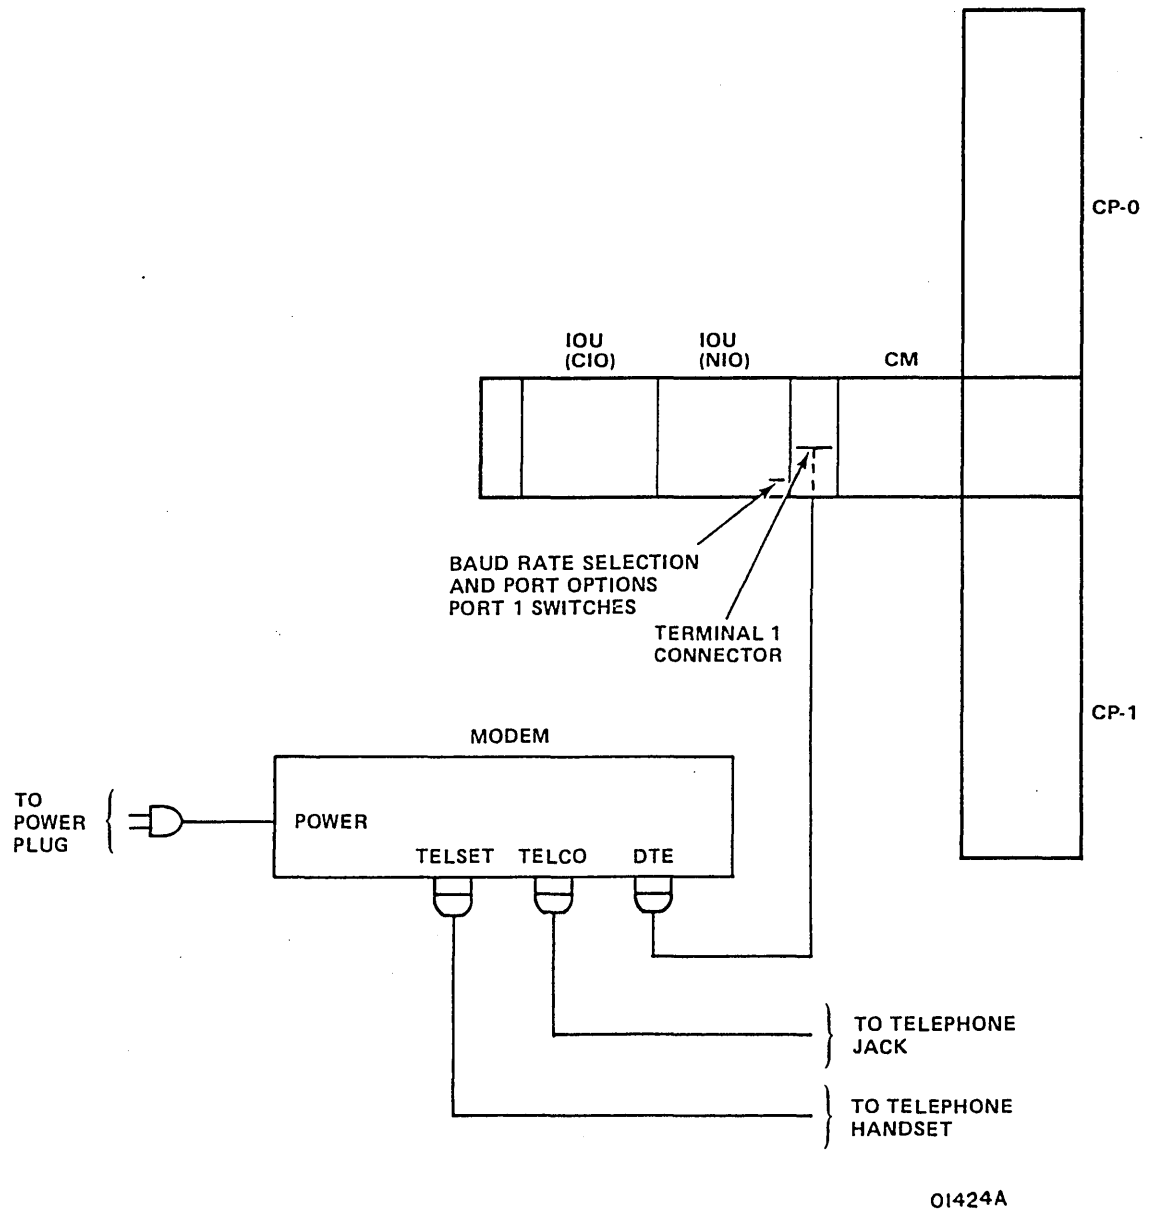

Figure 6-8. RTA Equipment Connections
- ___ 10. Route and connect one RTA cable from IOU (NIO section) front connector panel TERMINAL 1 to DTE connector on modem (figure 6-8).